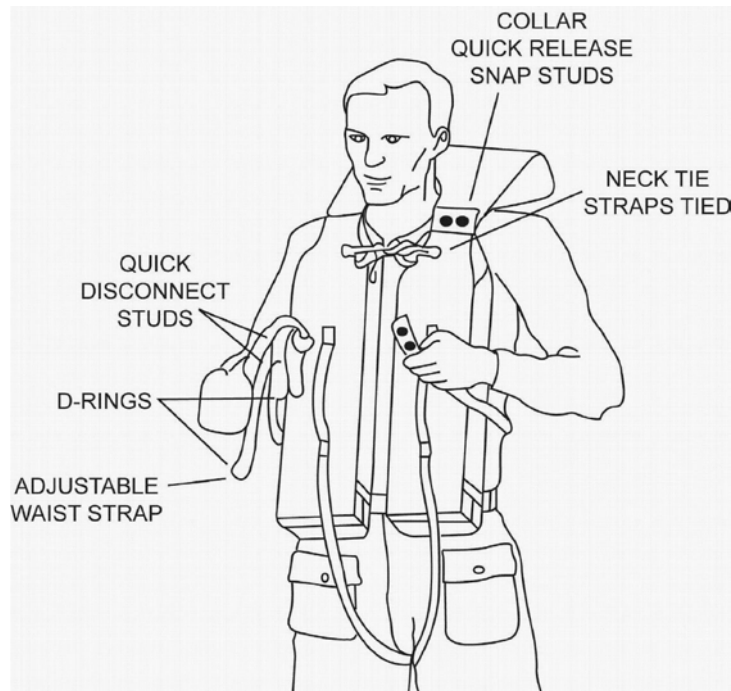

Figure 077-2-5. Quick-Disconnect Studs and D-Rings on Yoke Type Life Preserver
- e. Attach the quick-disconnect studs together (Figure 077-2-5).